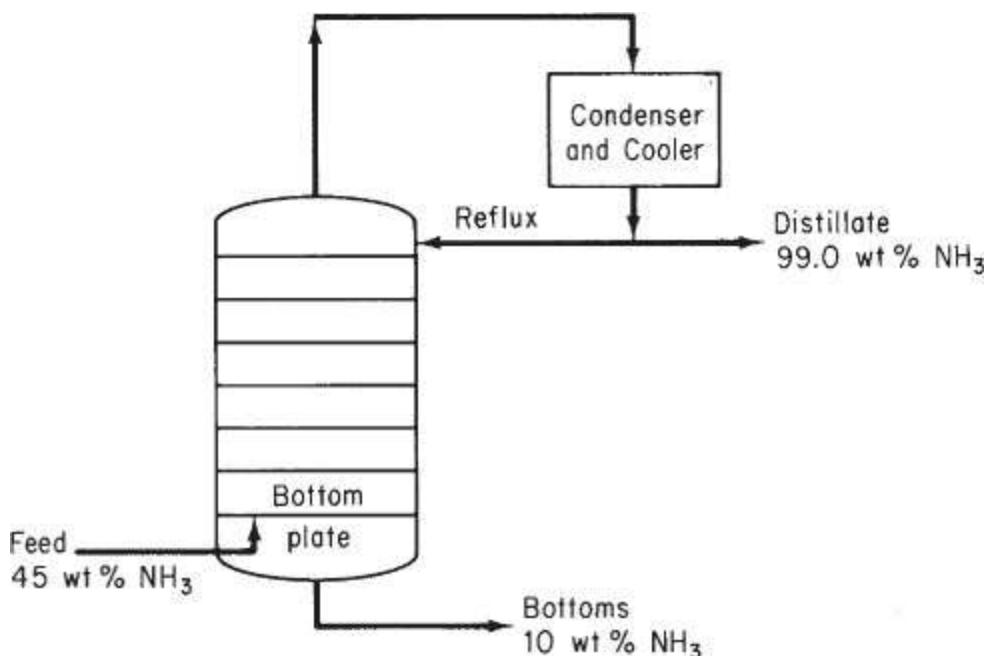

Figure P12.7a
- a. A vapor mixture containing 45 wt % ammonia, the balance being water, and having an enthalpy of 1125 Btu/lb is to be fractioned in a bubble-cap column operating at a pressure of 250 psia. The column is to be equipped with a total condenser. The distillate product is to contain 99.0 wt % ammonia and the bottom product is to contain 10.0 wt % ammonia. The distillate and the reflux leaving the condenser will have an enthalpy of 18 Btu/lb (Figure P12.7a).